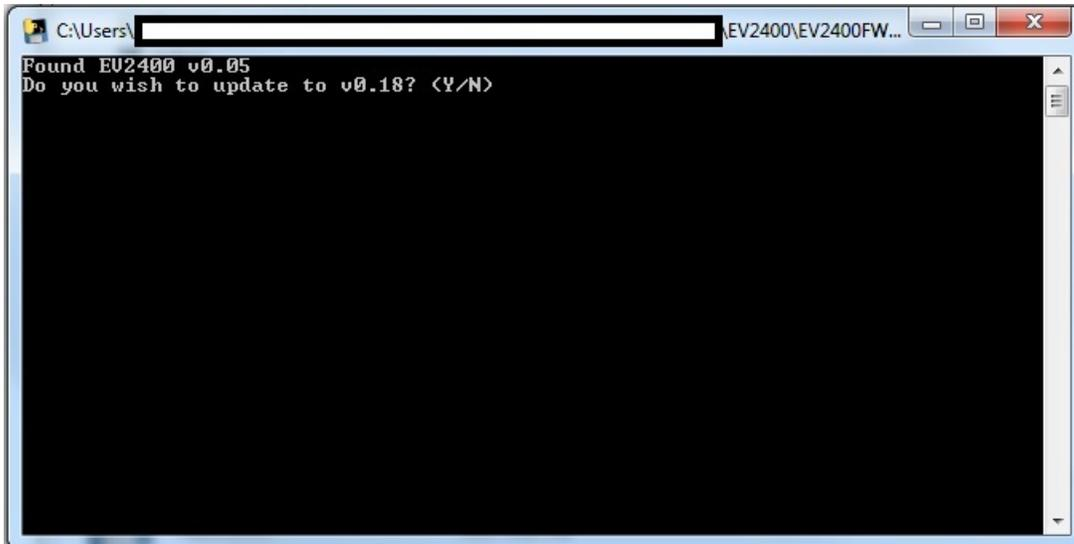

Figure 13. Firmware Update Prompt Screen
8. The upgrader tool should detect the connected EV2400, display the current firmware version, and prompt the user to continue to update the EV2400 firmware. See Figure 13.